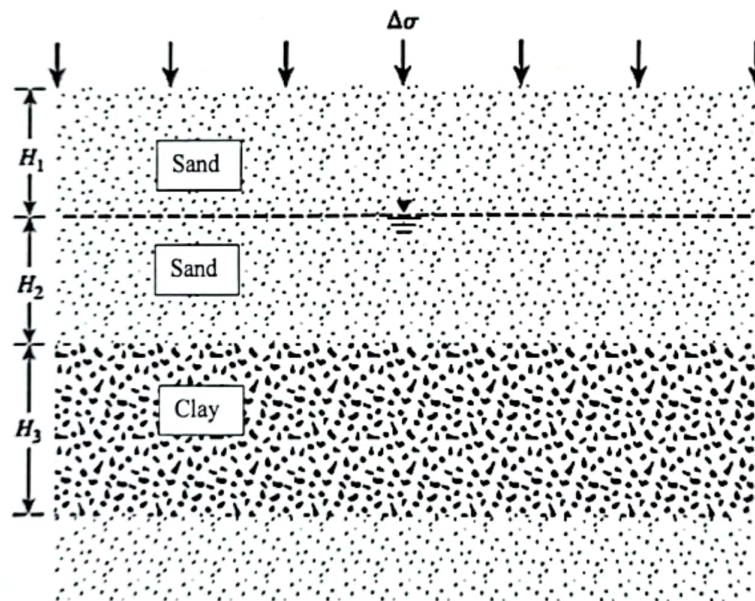

Fig. 4
- Derive formula for calculating coefficient of permeability using falling head method. (20) 3
- 6) If during a permeability test on a soil sample with a falling head permeameter, equal time intervals are noted for drops of head from  $h_1$  to  $h_2$  and again  $h_2$  to  $h_3$ , find the relationship between  $h_1$ ,  $h_2$  and  $h_3$ . (10) 3
7. a) Explain – (10) 3
- b) The in situ moisture content of a soil is 18% and the moist unit weight is  $105 \text{ lb/ft}^3$ . The specific gravity of soil solids is 2.75. This soil is to be excavated and transported to a construction site for use in a compacted fill. If the specification calls for the soil to be compacted to minimum of dry unit weight of  $103.5 \text{ lb/ft}^3$  at the same moisture content of 18%, then determine the cubic yards of soil from the excavation site are needed to produce  $10,000 \text{ yd}^3$  of compacted fill. Also determine the number of 20-ton truckloads needed to transport the excavated soil. (20) 4
8. a) Differentiate between normally consolidated clay and over-consolidated clay. (10) 4
- b) From Fig. 4, determine the primary consolidation settlement in the clay layer when (i) the soil is normally consolidated, (ii) the pre-consolidation pressure  $\sigma'_c = 2200 \text{ lb/ft}^2$ . Given:  $\Delta\sigma = 550 \text{ lb/ft}^2$ ,  $H_1 = 6 \text{ ft}$ ,  $H_2 = 12 \text{ ft}$ , and  $H_3 = 18 \text{ ft}$ . Soil characteristics are as follows